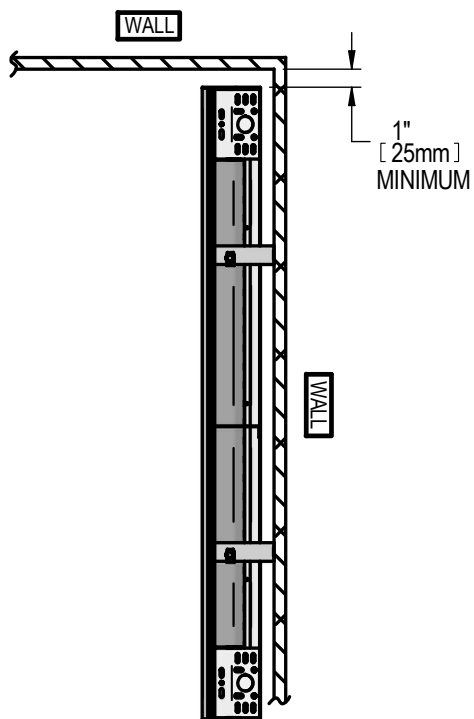

FIGURE 4 TOP VIEW
6. If two units are installed at a wall corner, each at an adjacent wall and side by side, a minimum clearance distance of 4 inches (102 mm) from the corner is required. See FIGURE 4.